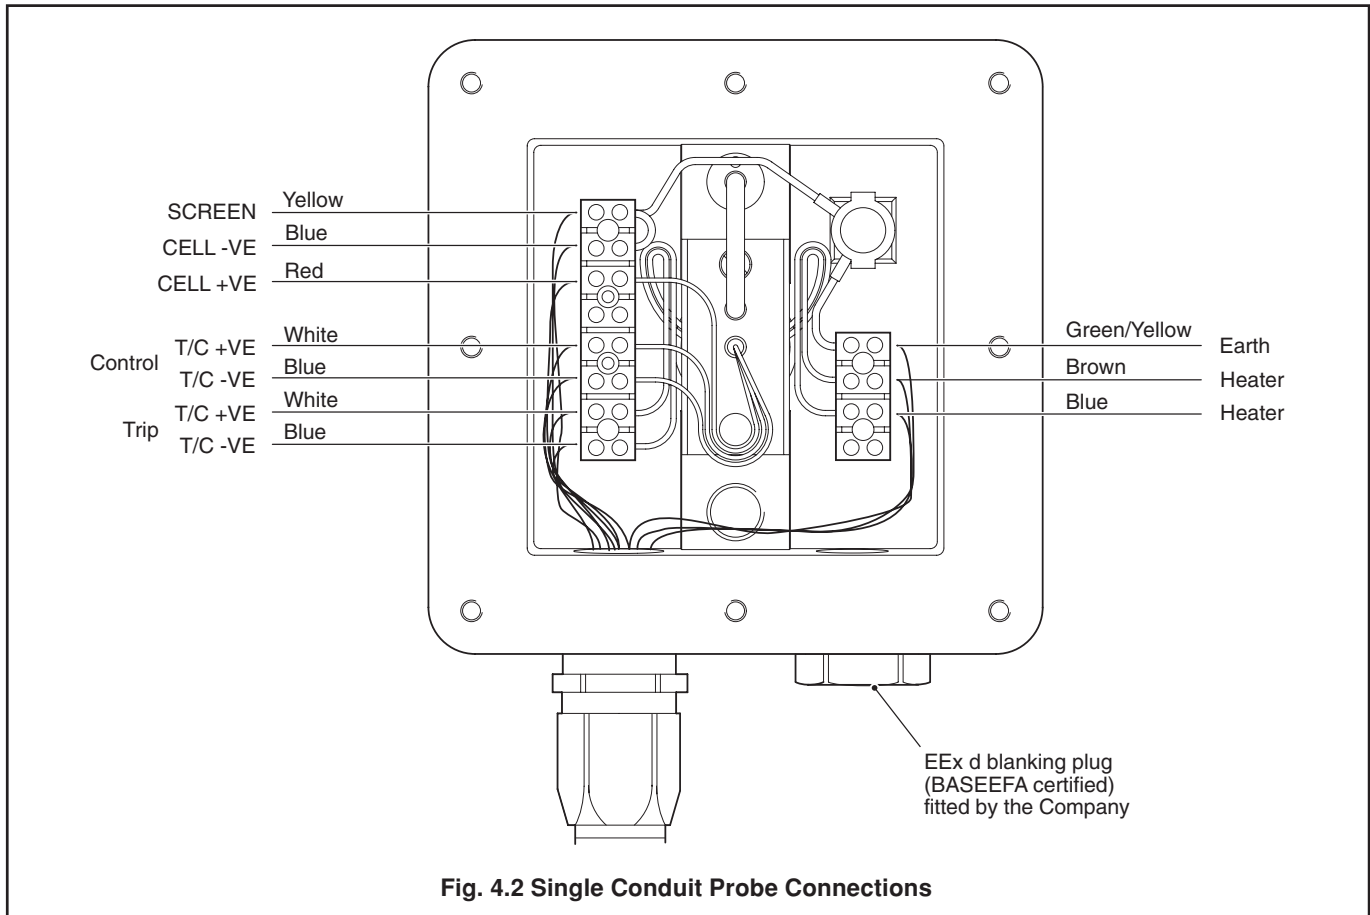
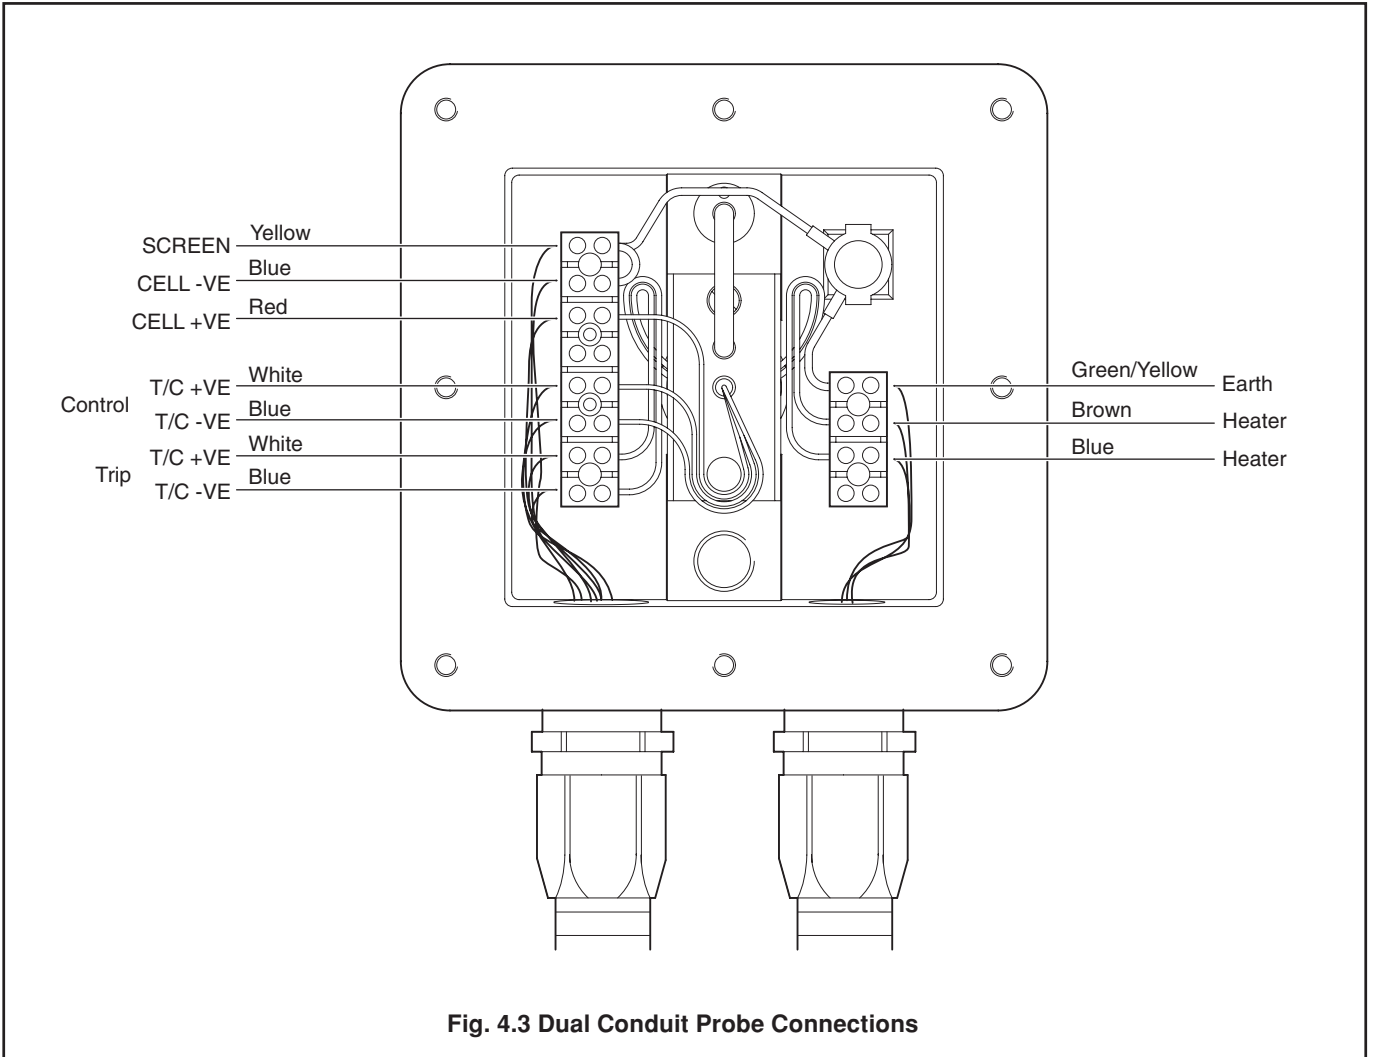
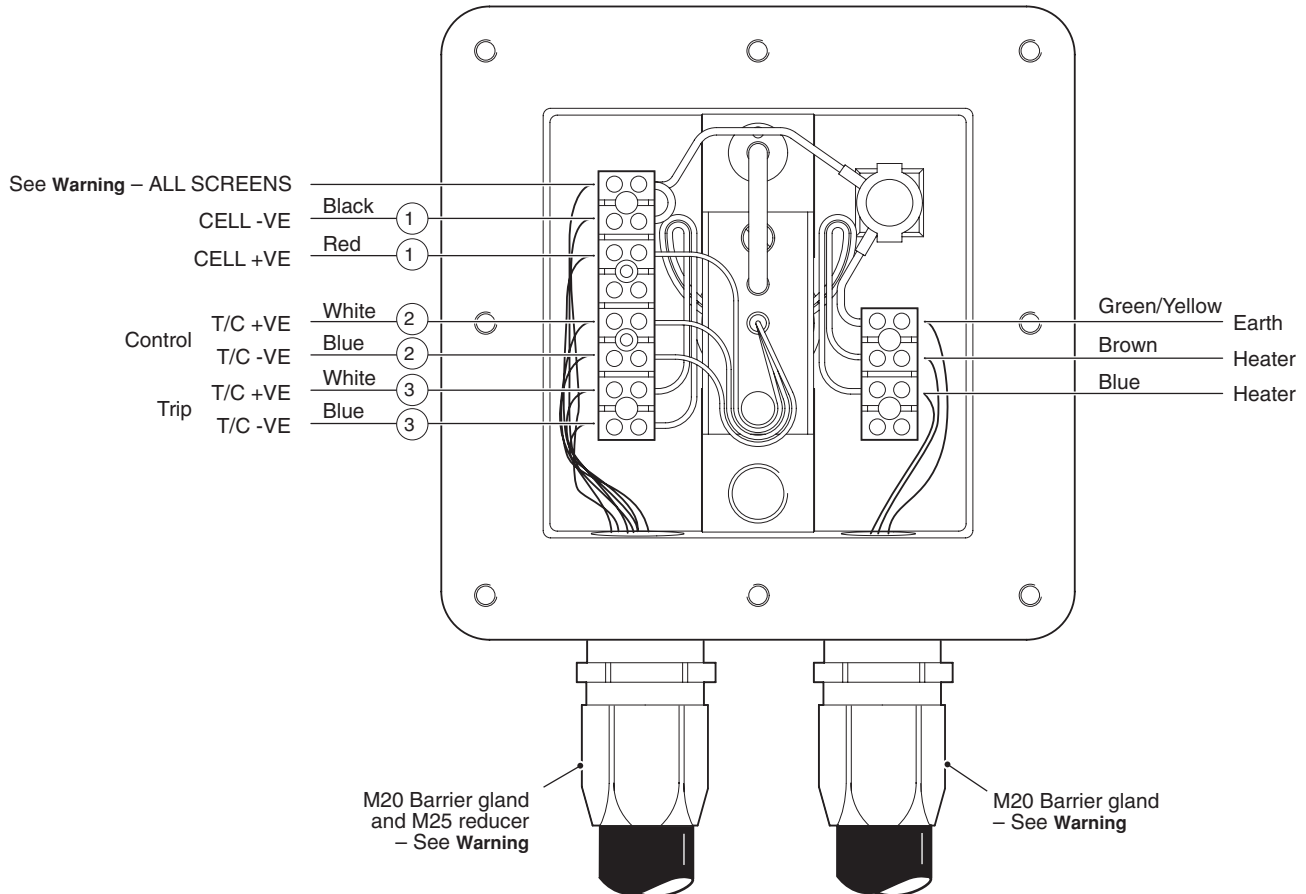

Fig. 4.2 Single Conduit Probe Connections
Fig. 4.3 Dual Conduit Probe Connections
Fig. 4.4 Dual Cable Probe Connections
4.2.2 Single Conduit Probe Connections – Fig. 4.2
When making connections, ensure that the cables are routed correctly as shown in Fig. 4.2 (single conduit), Fig. 4.3 (dual conduit) or Fig. 4.4 (dual cable).
4.2.3 Dual Conduit Probe Connections – Fig. 4.3
4.2.4 Dual Cable Probe Connections – Fig. 4.4